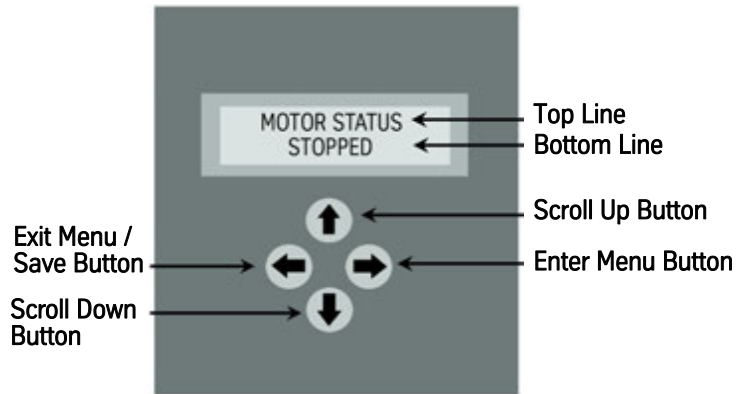

Figure 27 - Electronic Starter Display
- The starter's display should read **MOTOR STATUS STOPPED** when the system is normal. Reset the starter if it reads otherwise and, before continuing, correct any problem indicated on the display. See Figure 27 on page 55 for this and all following steps in this procedure.